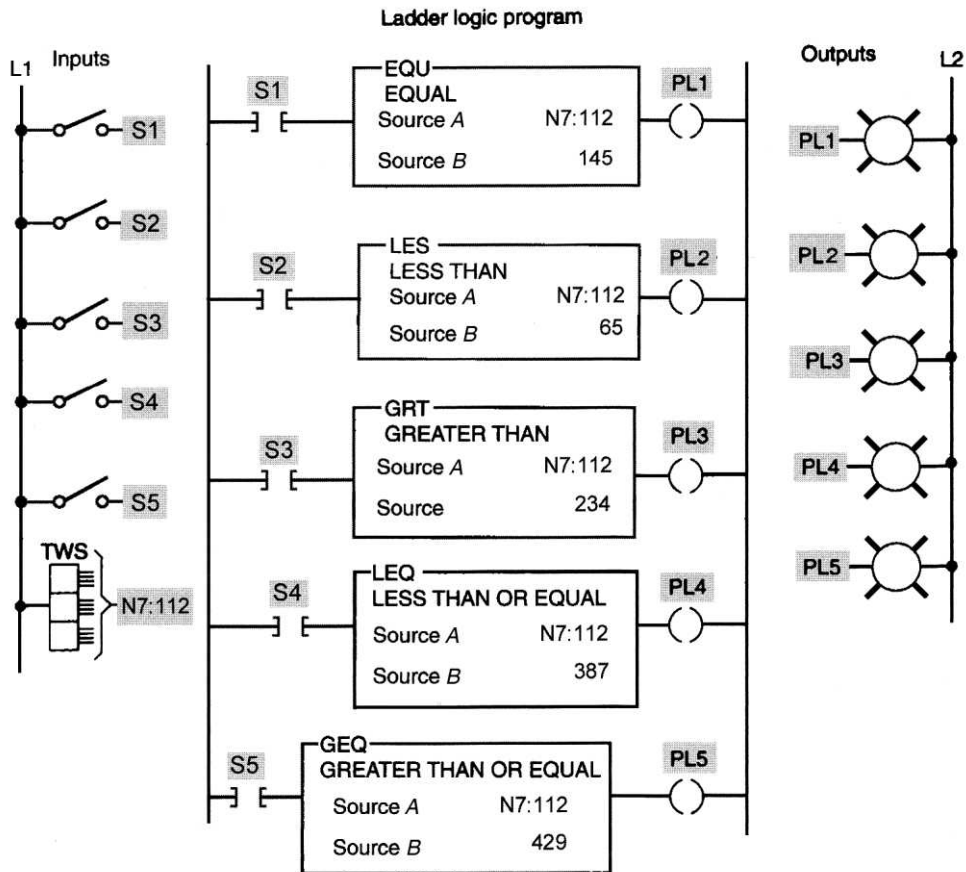

Figure 10-27 Data compare program for assignment 3.
3) Construct the data compare program of Figure 10-27 using a thumbwheel switch interface module for the changing variable. Enter the program into the PLC, and prove the operation of each rung.